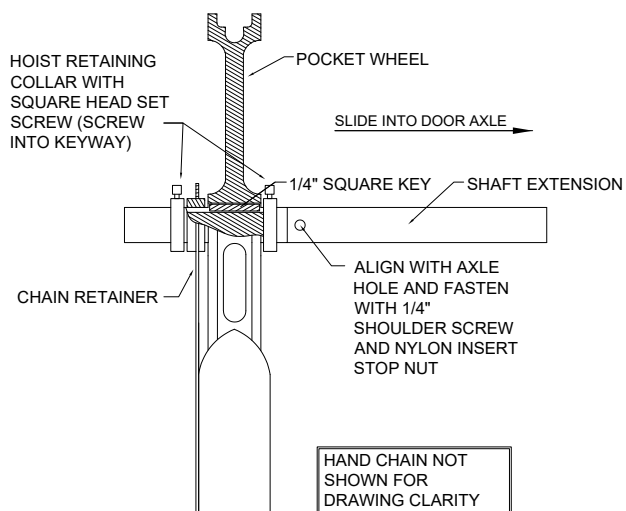

Figure 12
9.2 Direct – Drive operator (Figure 12)